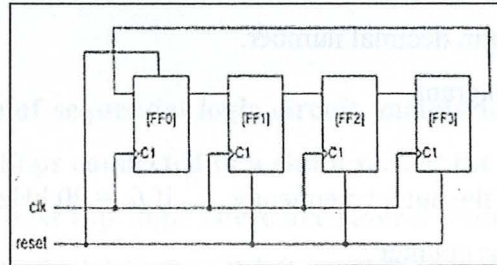

Figure 3(a)
- 5) List **THREE (3)** advantages of Synchronous Counter over Asynchronous Counter.
7) Based on Figure 3(a), solve the following questions.